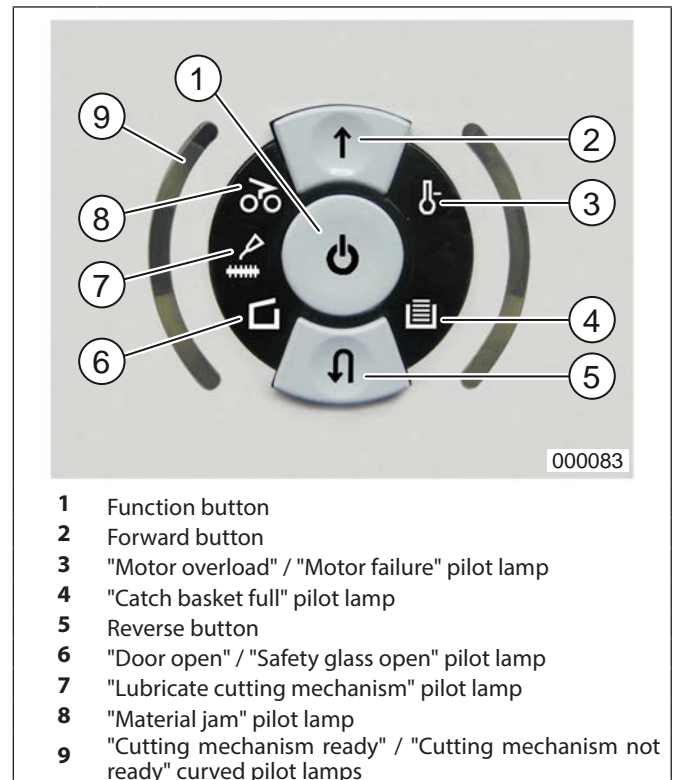

Fig. 1 "i-control" operator unit
① = Function button (Fig. 1/1)
② = Forward button (Fig. 1/2)
③ = "Motor overload" / "Motor failure" pilot lamp (Fig. 1/3)
④ = "Catch basket full" pilot lamp (Fig. 1/4)
⑤ = Reverse button (Fig. 1/5)
⑥ = "Door open" / "Safety glass open" pilot lamp (Fig. 1/6)
⑦ = "Lubricate cutting mechanism" pilot lamp (Fig. 1/7)
⑧ = "Material jam" pilot lamp (Fig. 1/8)
⑨ = "Cutting mechanism ready" / "Cutting mechanism not ready" curved pilot lamps (Fig. 1/9)
Briefly press the function button (Fig. 1/1).
1. Briefly press the function button Fig. 1/1.
2. Briefly press the forward button Fig. 1/2.
3. Briefly press the forward button Fig. 1/2.